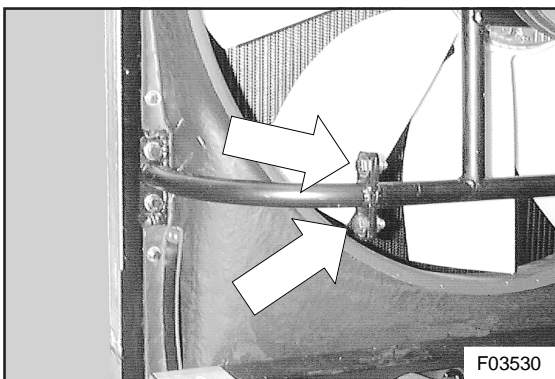

Figure 15: Lower left hand fan and clutch carrier retaining screws
17. Starting at the bottom, undo and remove three of the four capscrews and locknuts securing the fan and clutch carrier to the left hand radiator support brackets (see Figures 15 and 16). Slacken the top locknut so that it can be undone by hand but leave the capscrew in place.